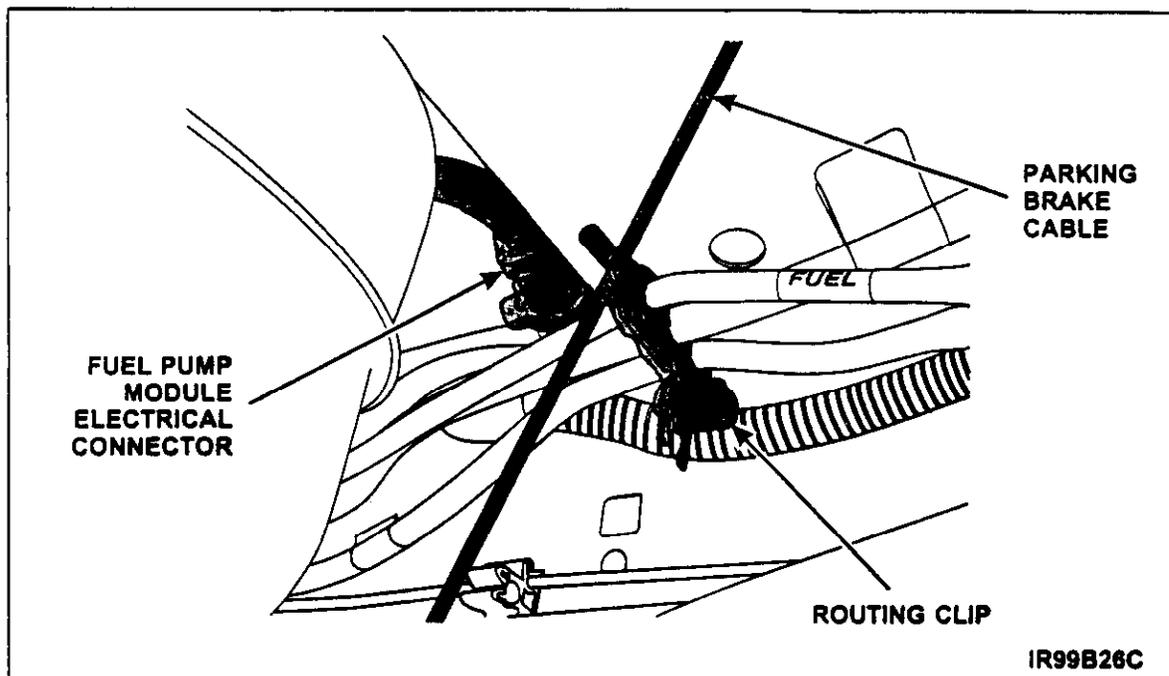

FIGURE 3
11. Disconnect the fuel pump module electrical connector. See Figure 3. The connector is located approximately 25.4 cm (10 inches) behind the fuel filter on the rear face of the crossmember.
12. Release the fuel lines from the routing clip on the crossmember, then carefully pull the fuel lines from under the parking brake cable. See Figure 3.